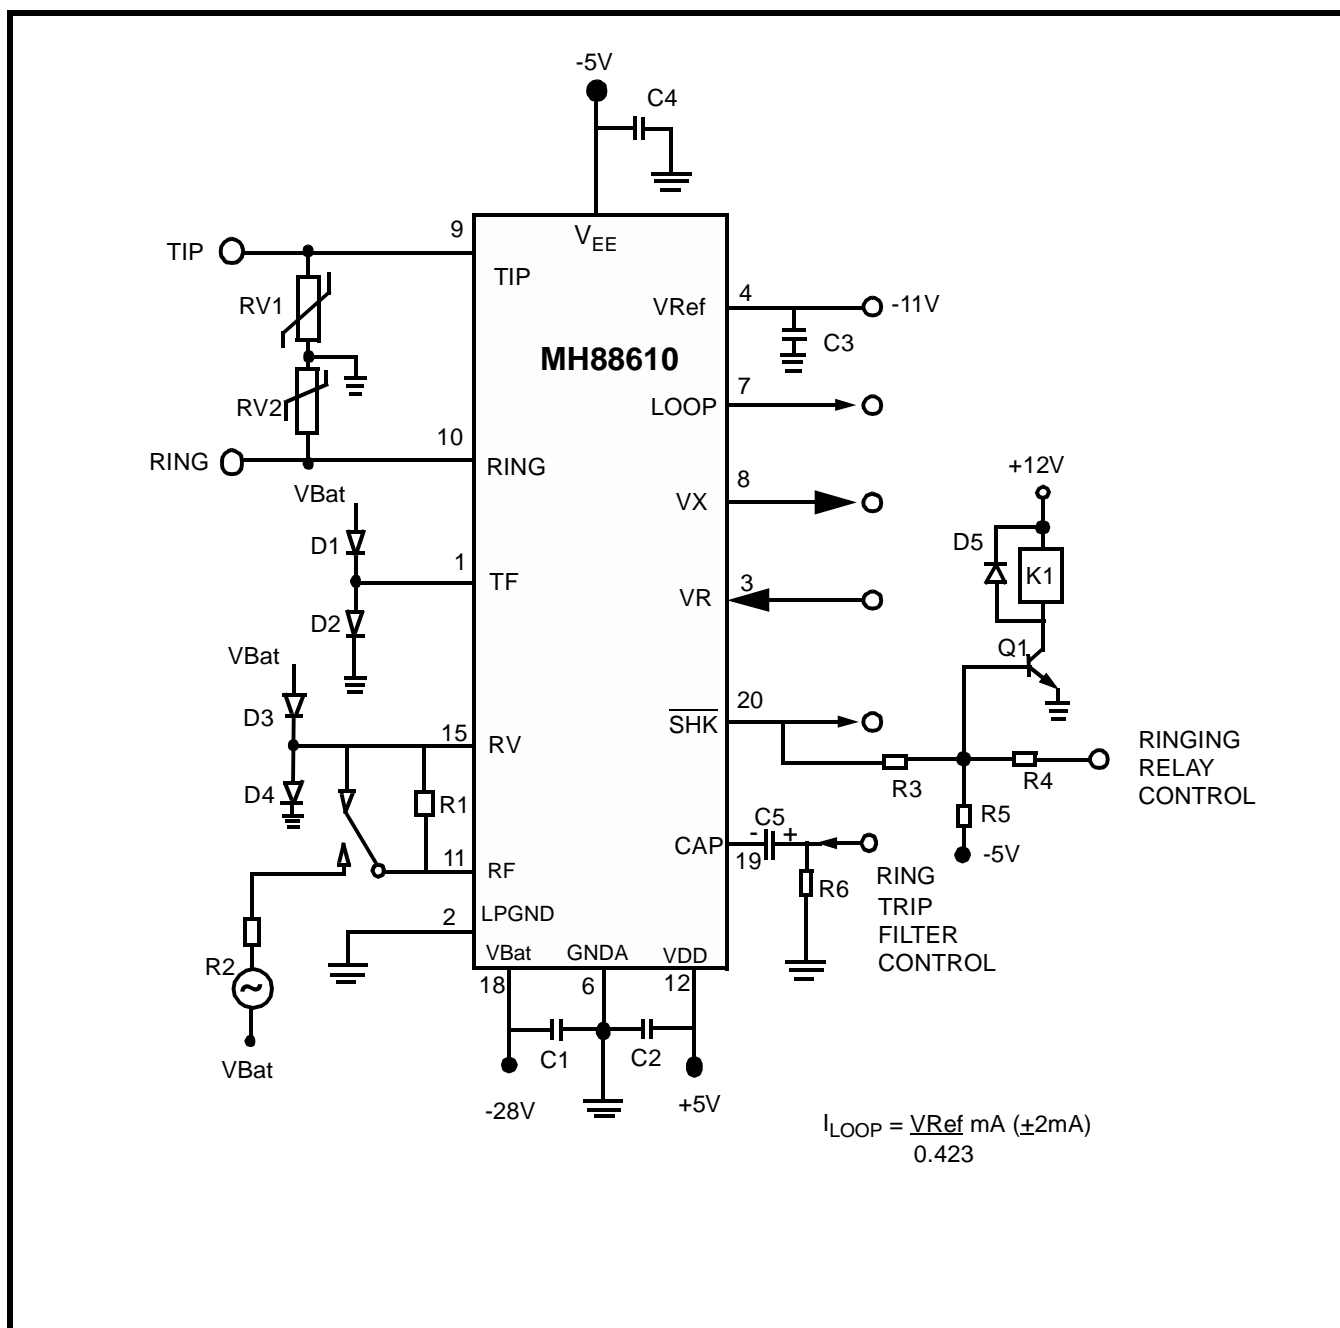

Figure 3 - Application Circuit
In Figure 3 a ringing signal (e.g., 90Vrms= \pm 48Vdc) is applied to the line by disconnecting pin 15 (RV) from pin 11(RF), and connecting the ringing voltage at pin 11 (RF) by use of the relay K1.